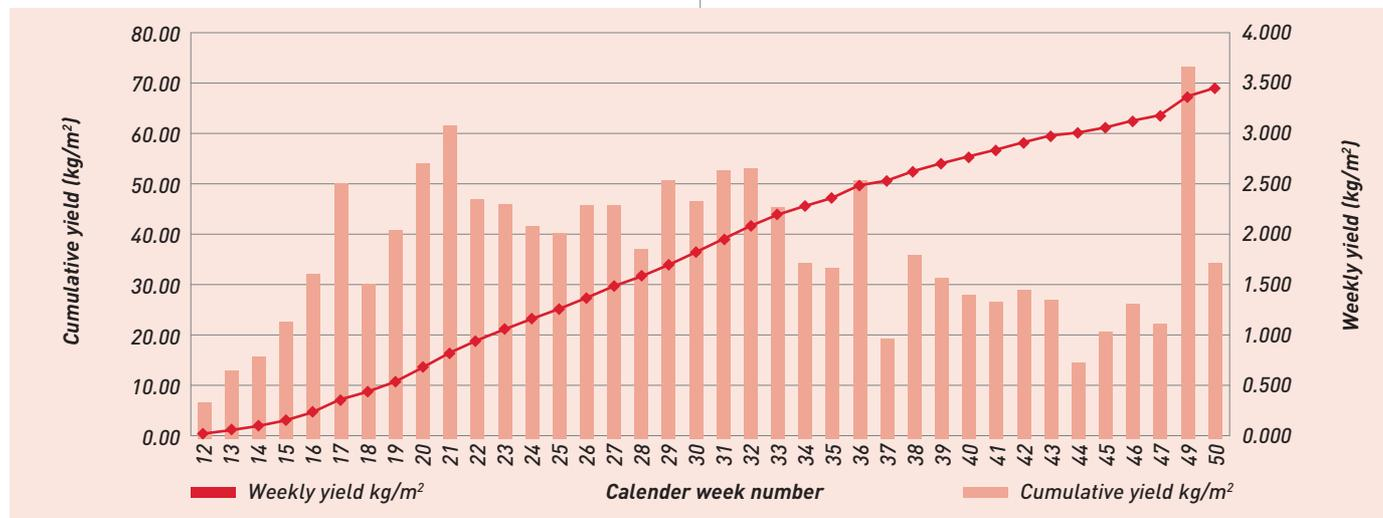

Figure 1.
*Rates are from a Dutch greenhouse and are influenced by weekly production /m² shown in Figure 1. These rates assume a weekly harvest of approximately 2.0kg/m².